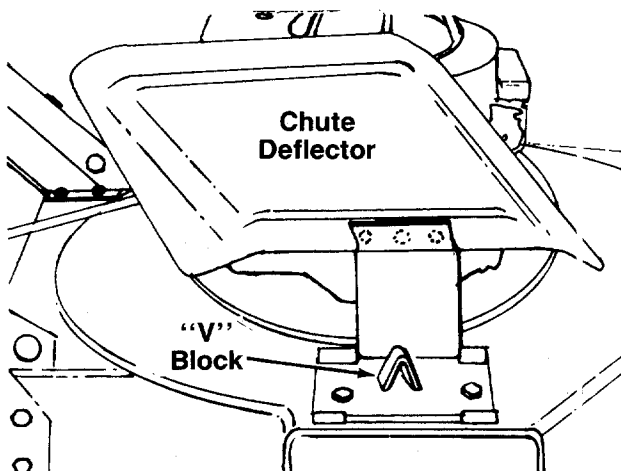

FIGURE 12.
2. The chute deflector on your mower is held in an upright position by a "V" block for shipping purposes only. This "V" block must be removed and discarded before the mower is put into operation. See figure 12.